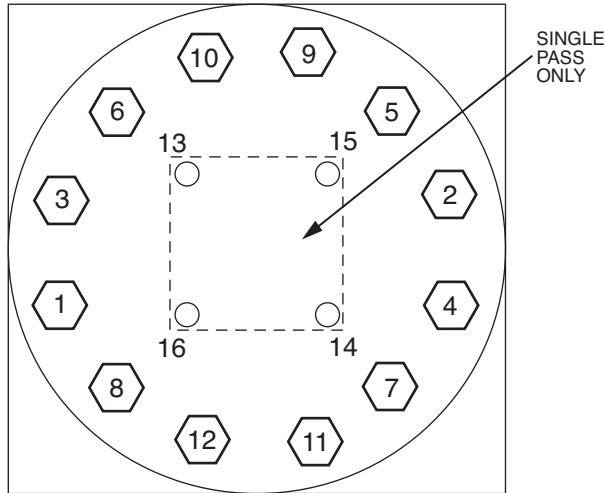

Fig. 54 — Flooded Cooler Unit Head Recommended Bolt Torque Sequence
2. Bolt tightening sequence is outlined in Fig. 54. Follow the numbering or lettering sequence so that pressure is evenly applied to O-ring.